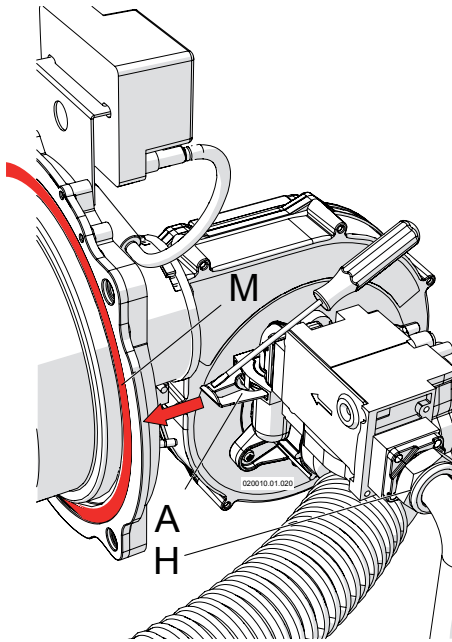
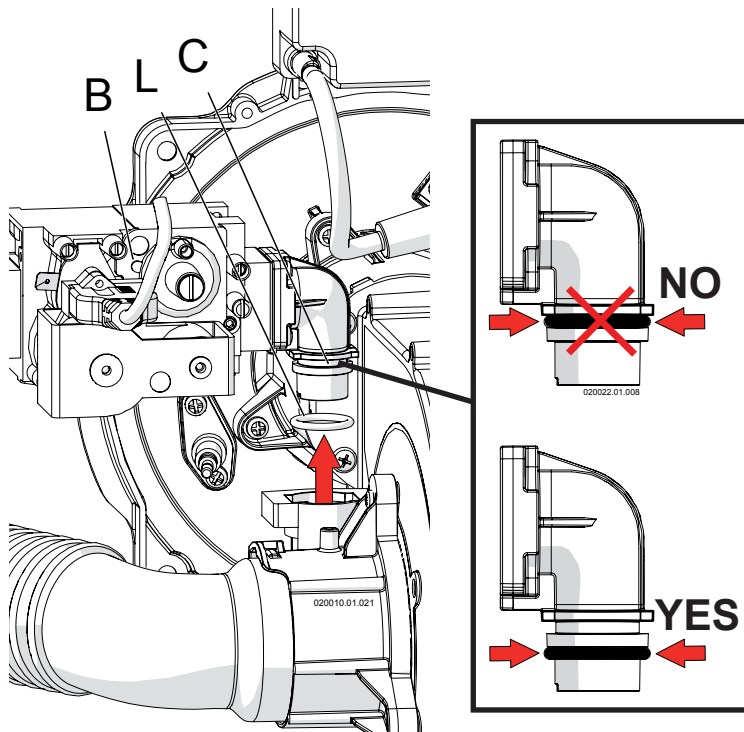

Figure 14-3 Dismantle the gas valve
Figure 14-4 Lift the gas valve
- 4 - unscrew nut "H" as per Figure 14-3;
- 5 - with the help of a screwdriver, remove spring "A" (see figure 14-3);
- 6 - remove the gas valve from its site "C" as per Figure 14-4 (take care attention to o-ring "L" of Figure 14-4);
- 8 - reinstall the gas valve, paying close attention to the o-ring "L" of Figure 14-4 and to the gasket between gas valve and nut "H" of Figure 14-3;
- 9 - Insert again the spring "A" of Figure 14-3;
- 10 - tight nut "H" of Figure 14-3;
- 12 - check for any gas leaks on nut "H" of Figure 14-3;